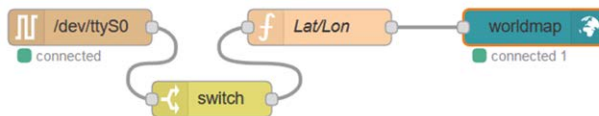

Figure 11.22 Flow program of the project
The flow program of this project is shown in Figure 11.22. It consists of 4 nodes: a **serial in** node to receive the GPS data in real-time, a **switch** node to extract the \$GPGLL sentences, a **function** node to extract the latitude and longitude in degrees format, and a **worldmap** node to show our position on a map.
- Join all the nodes as in Figure 11.22 and click **Deploy**.